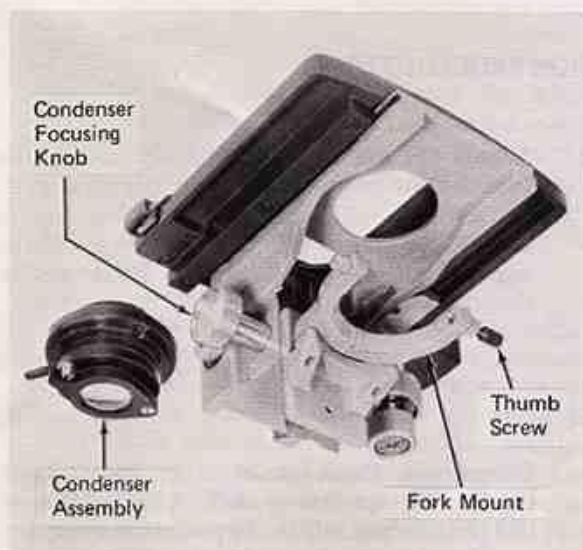

Figure 6. Removal of Condenser Assembly
1. Lower the condenser by turning the condenser focusing knob. (See Figure 6.)
Turn the condenser focusing knob (Figure 6) to raise the darkfield condenser until it stops. The top lens of the condenser should stop slightly (approximately the thickness of ordinary writing paper) below
Turn the condenser focusing knob (Figure 6) to raise the darkfield condenser until it stops. Then lower the condenser until the top lens is just slightly below stage level.